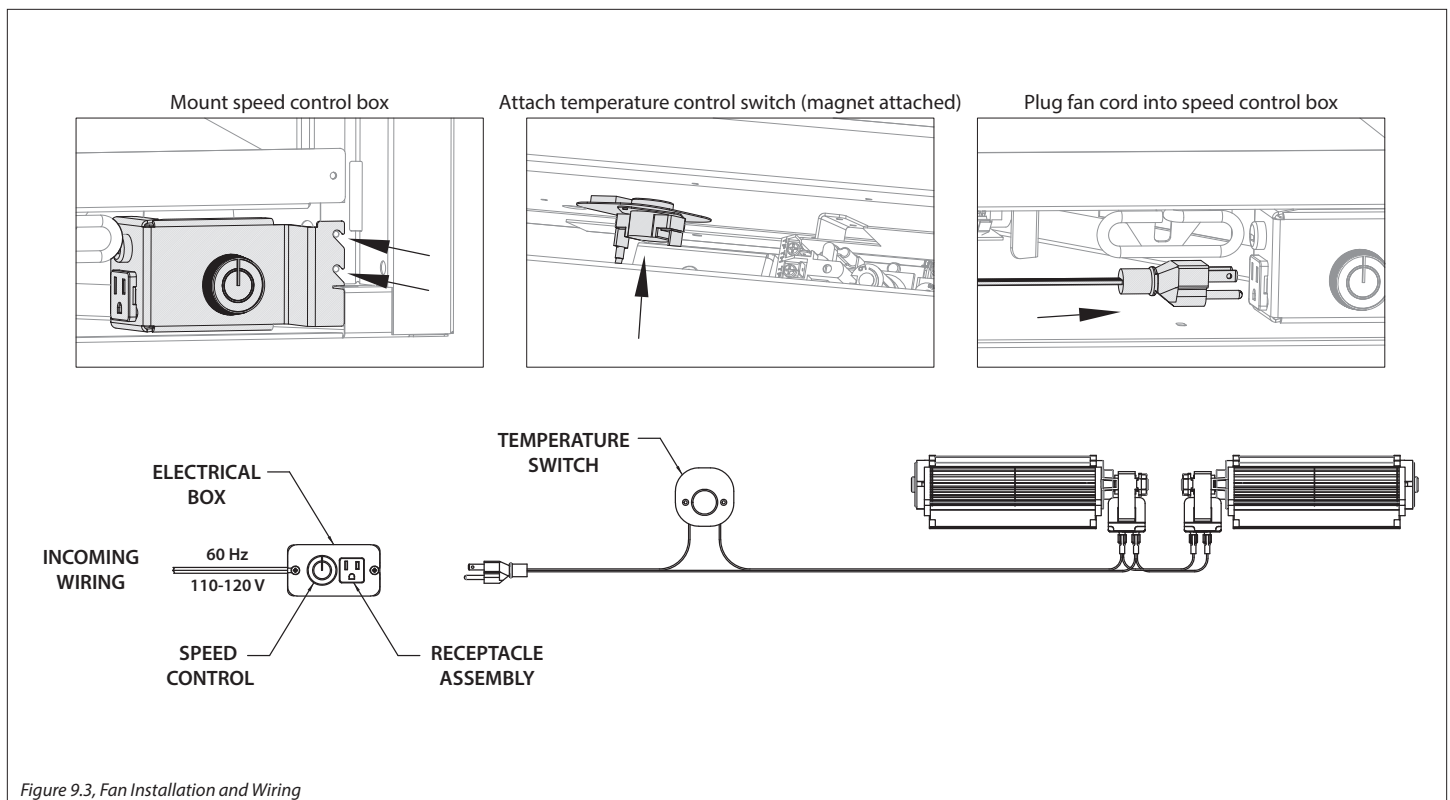

Figure 9.3, Fan Installation and Wiring
6. Insert fans through the opening and position on the studs at the back of the firebox. Secure with (4) flange nuts (included).
7. Mount the speed control box onto the right side frame inside the control compartment. Align the slots in the speed control box to the holes in the bracket. Secure with (2) black philips head screws (included). See Figure 9.3.
8. Plug fan cord into the speed control box. See Figure 9.3.
10. Reinstall the control board. Secure with (8) screws previously removed.
11. Attach the temperature control switch (magnet attached) to the firebox floor anywhere left of the gas valve. See Figure 9.3.